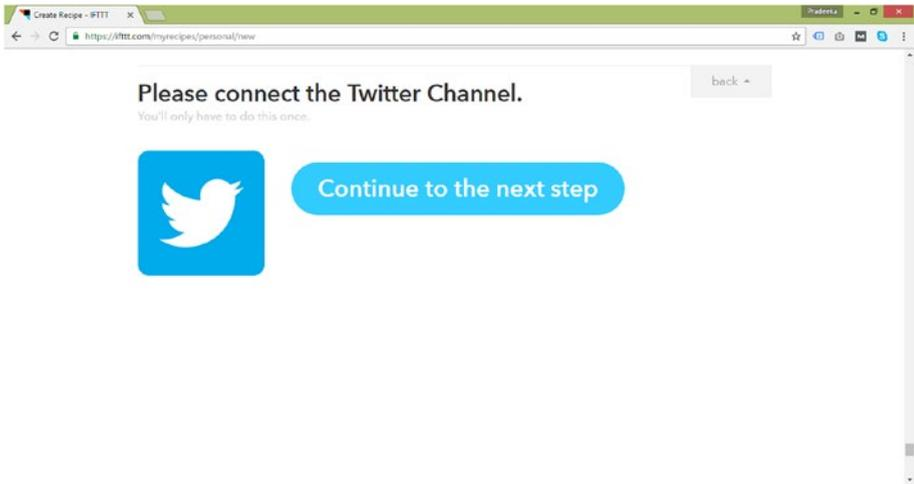

Figure 8-19. A Twitter configuration step
12. Click the **Continue to the Next Step** button, as shown in Figure 8-19.